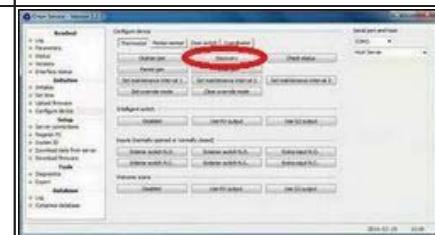

Figure 94
5. In the Orion Service software (go to **Start/Programs/Orion Service/Orion Service**), choose **Configure device** in the left pane of the window. Let the tab **Thermostat** (default be open and click the **Discovery** button; see Figure 94. The thermostat will connect to the open gateway/router.